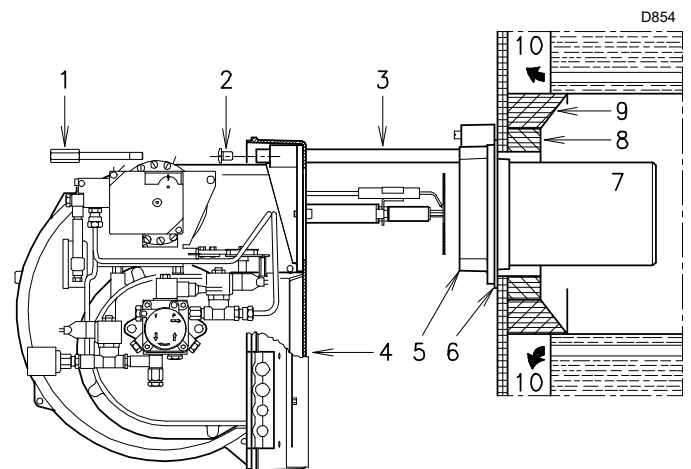

Fig. 12
Blast tube 7)(Fig. 12):
For boilers with front flue passes 10) (Fig. 12) or flame inversion chambers, a protection in heat-resistant material 8) must be inserted between the boiler refractory 9) and the blast tube 7).
For boilers with a water-cooled front piece, a refractory lining 8)-9)(Fig. 12) is not necessary, unless expressly requested by the boiler manufacturer.
Remove blast tube 7) from the burner 4) (Fig. 12) and proceed as follows:
- slide back the burner on the slide bars as shown in Fig. 12.